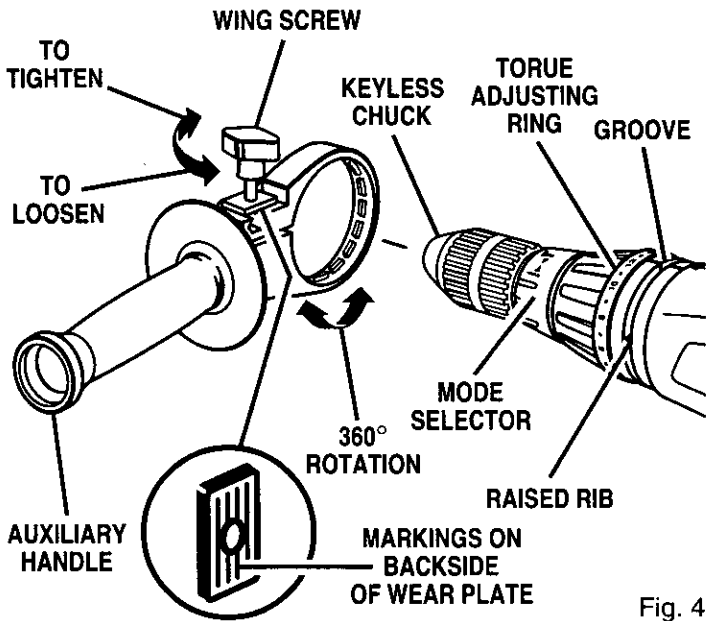

Fig. 4
See Figure 4.
**Note:** If wing screw and wear plate is removed from auxiliary handle, when reassembling, the markings on the wear plate must be positioned as shown in Figure 4. This prevents the depth gage rod from slipping. See Figure 4.
- Orient depth gage rod so that markings on depth gage rod face markings on wear plate. See Figure 4. Insert depth gage rod through hole on auxiliary handle.